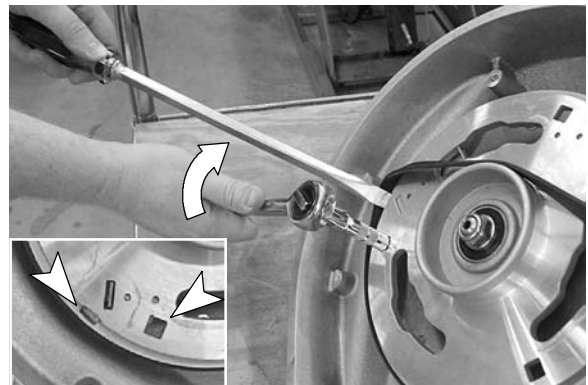

FIG. 72
6. To install belt, use a socket driver ratchet with an extension and a large flathead screwdriver as shown. The hub driver is equipped with tool slots (Figure 72).